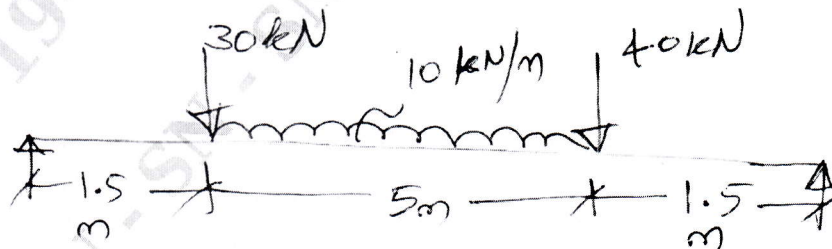

Fig.Q7(b)
b. Draw SFD and BMD for the beam shown in Fig.Q7(b).